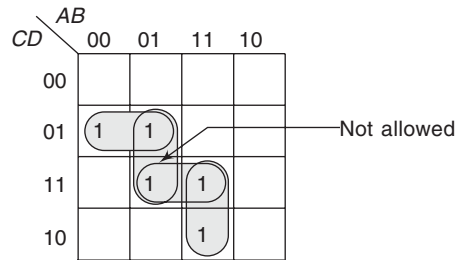

Fig. 6.65
15. While forming groups, overlapping of groups is allowed i.e. two redundant (not allowed) groups can have one or more 1's in common. At the same time redundancy is not allowed i.e. a group whose all 1's are overlapped by other groups. (See Fig. 6.65)